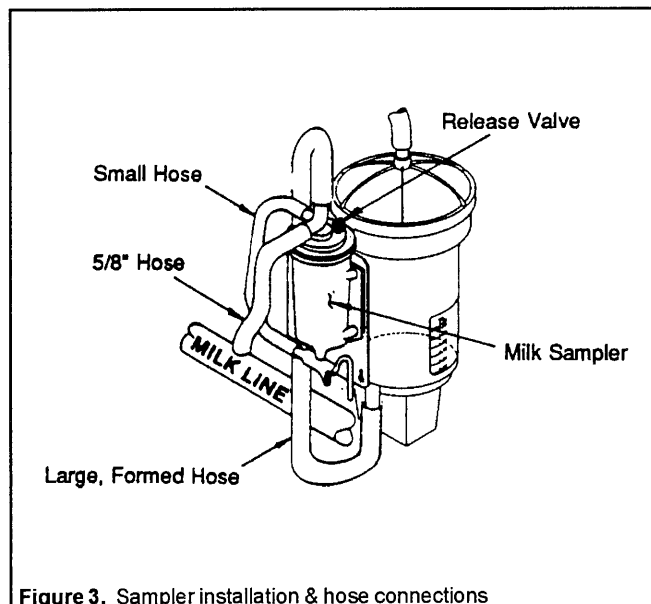

Figure 3. Sampler installation & hose connections
Before each use, sanitize the sampler and all hoses associated with it, according to the instructions in Section 4. Then, install the sampler, as shown in Figure 3 and explained below:
2. **Ensure that the release valve, on top of the sampler cover (see Figure 3), is seated properly.**